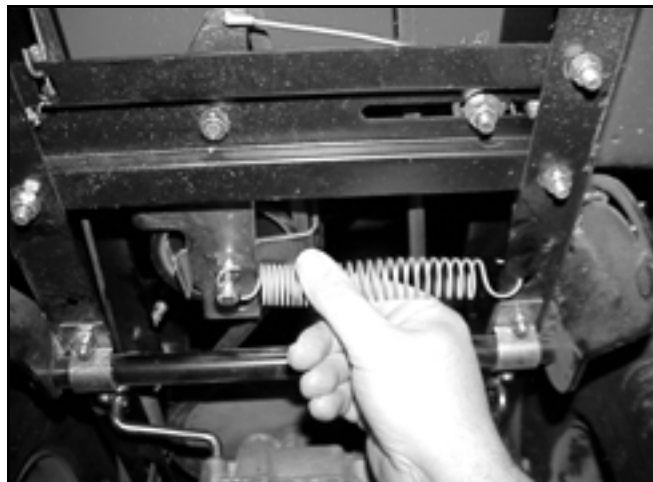

Figure 32
9. Hook the idler spring to the idler bracket (Figure 32).